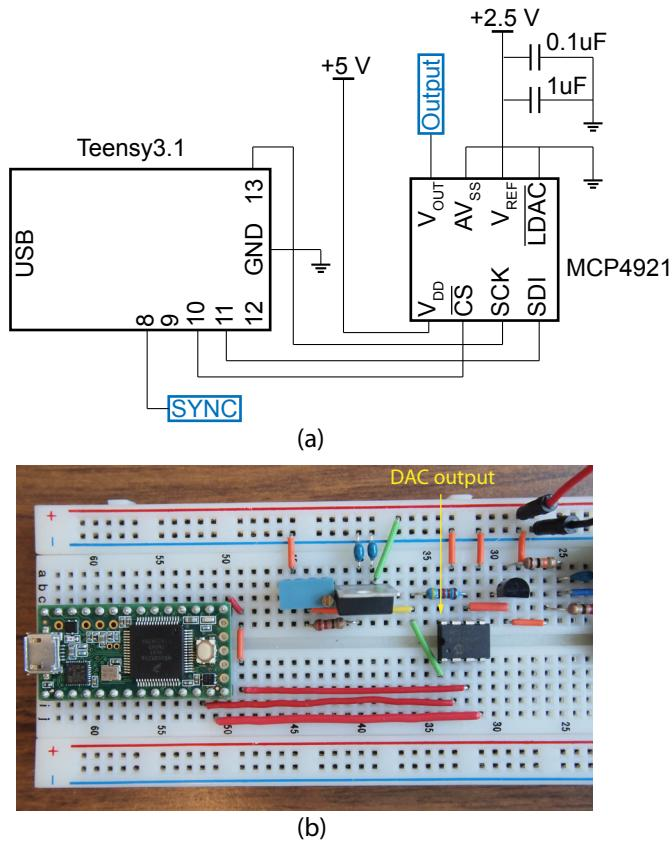

Figure 14: Schematic of the connection between the Teensy 3.1 and the MCP4921.
1. Using Fig. 14-a as a reference, connect the Teensy to the MCP4921 DAC. Connect the MCP4921's VDD pin to the output of the LM317 regulator (5 V). Connect the MCP4921's VREF pin to the LT1009 reference's output (2.5 V). Connect both AVSS and LDAC of the MCP4921 to ground. A 0.1 μ F and a 1 μ F capacitor could be used at VREF to minimize noise at the reference. It is very important to keep your circuit (ICs, resistors, capacitors, wires, etc) organized. Use as short of a wire as possible between two connection points. Refer to Fig. 14-b for an example layout.